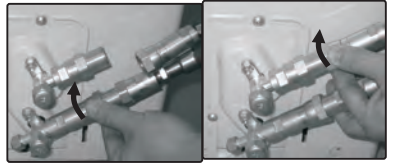

Fig.22
3. Align the refrigerant pipes correctly so that they line up with the valves and are not stressed. Place the screw connector on the refrigerant line just on to the thread on the outdoor unit and tighten the first few threads by hand, Fig.22.